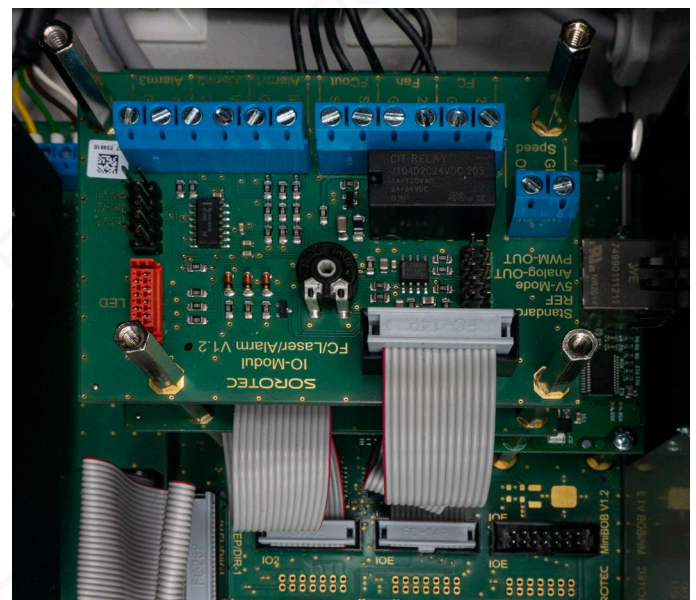

Fig. 38: C3 IO-Module Speed installed and connected
- Mount the C3 IO-Module Speed in its place above the standard C3 IO-Module Basic using the spacer sleeves supplied. See Fig. 38.